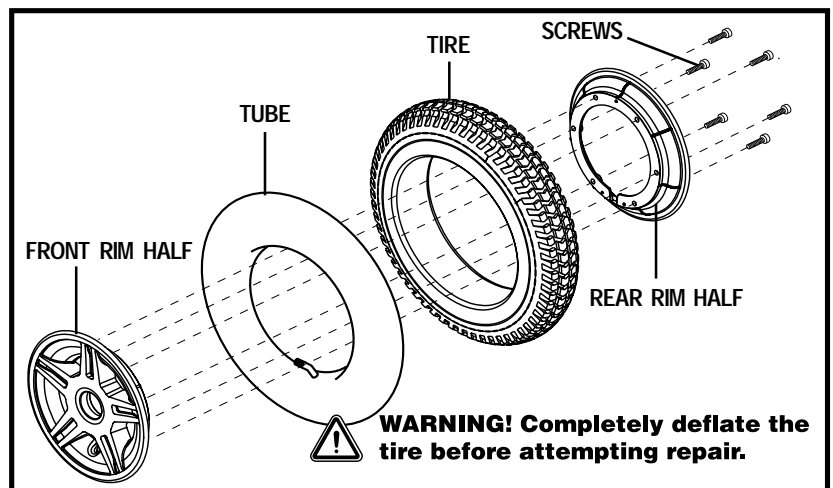

Figure 26. Quantum 600E Drive Wheel Disassembled
6. Remove the screws that fasten the two rim halves together. See figure 26.